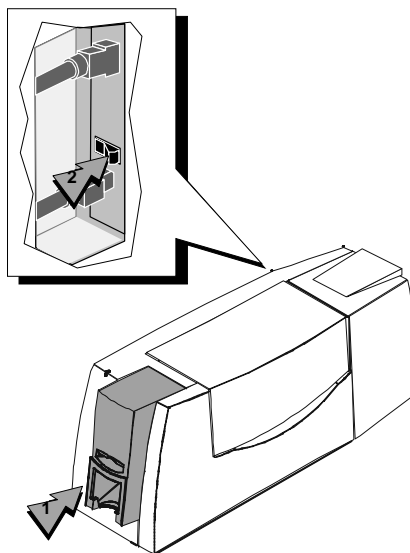

Figure 5-1: Press and hold Ready button (1) and then Press Power switch (2)
- 3 Press and hold the Ready button (1), and then power on the Select printer (2) as shown in Figure 5-1. Hold the Ready button until the printer sounds three tones, usually 5 to 10 seconds.